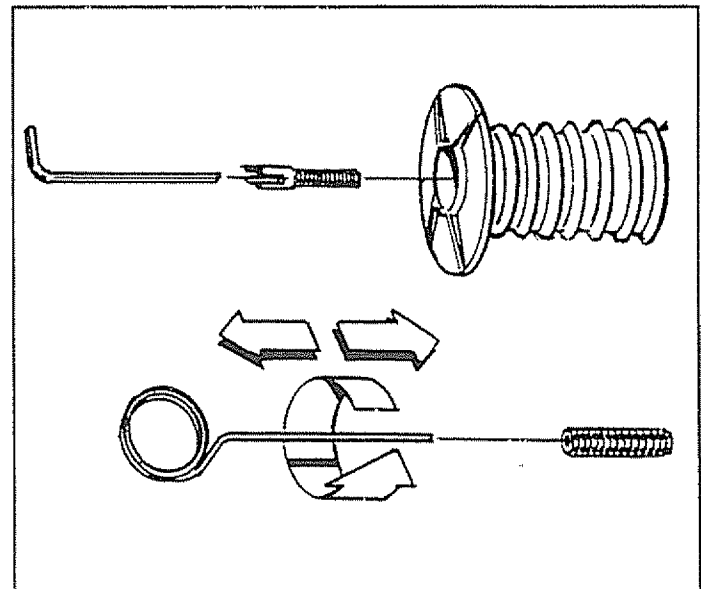

FIG. 22
- Use the wire included in the kit (Fig. 22) or a small paper clip to free the foreign materials clogging or restricting the nozzle.